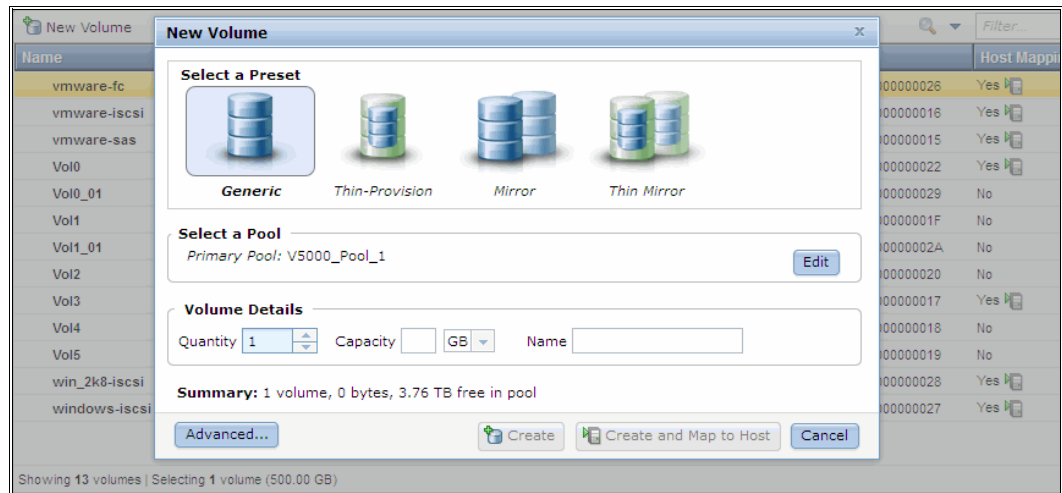

Figure 5-5 Pool selection
2. Select the pool in which the volume is to be created. Select the pool by clicking it. In our example, click the pool that is called **V5000_Pool_1**. The result is shown in Figure 5-5.